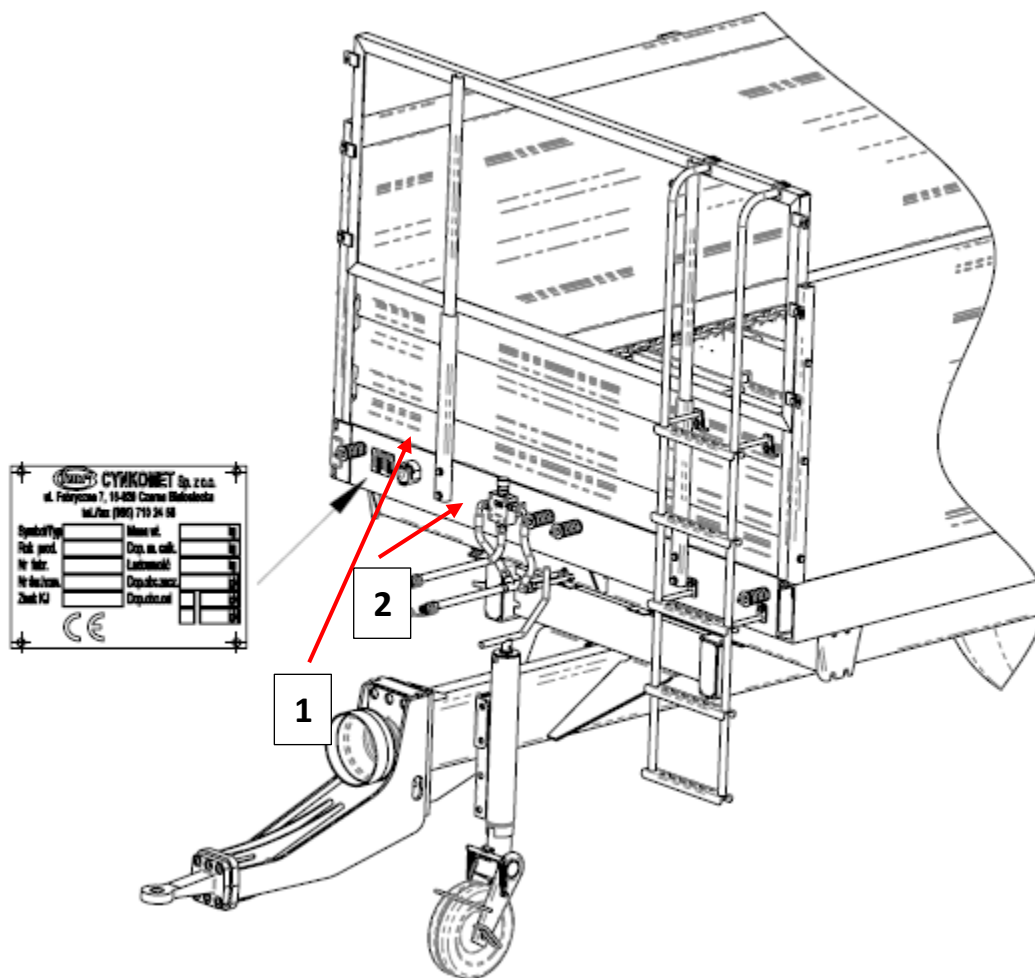

Figure 1. Location of the nameplate and issue of the serial number (Version PL)
The manure spreader is marked with the use of a nameplate (1) and a serial number (2). The serial number is located on the front beam of the lower frame, and the nameplate is located on the front beam of the upper frame - figure 1.